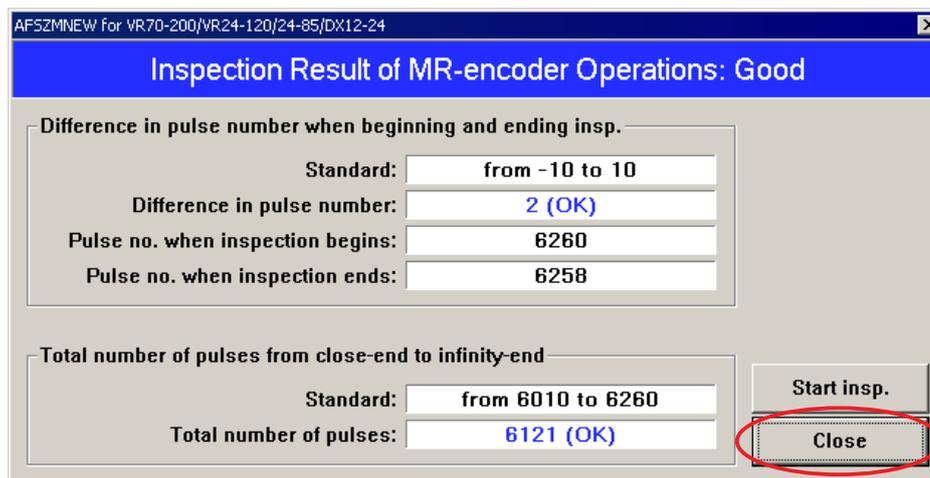

Fig.2
② When the operation check is completed, the result is displayed as shown in "Fig.2".